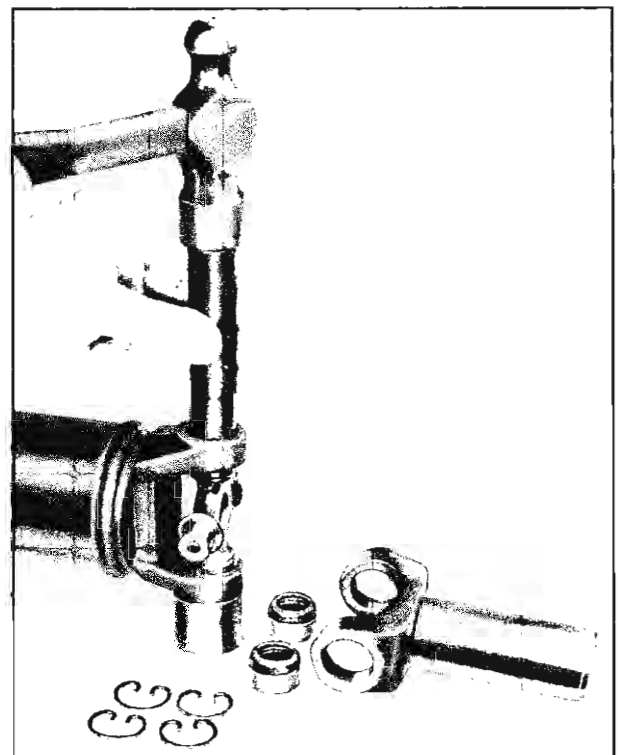

Fig. 56—Disassembling Universal Joint
3. Using soft drift and hammer, drive on one end of trunnion bearing just far enough to drive opposite bearing from yoke (fig. 56).